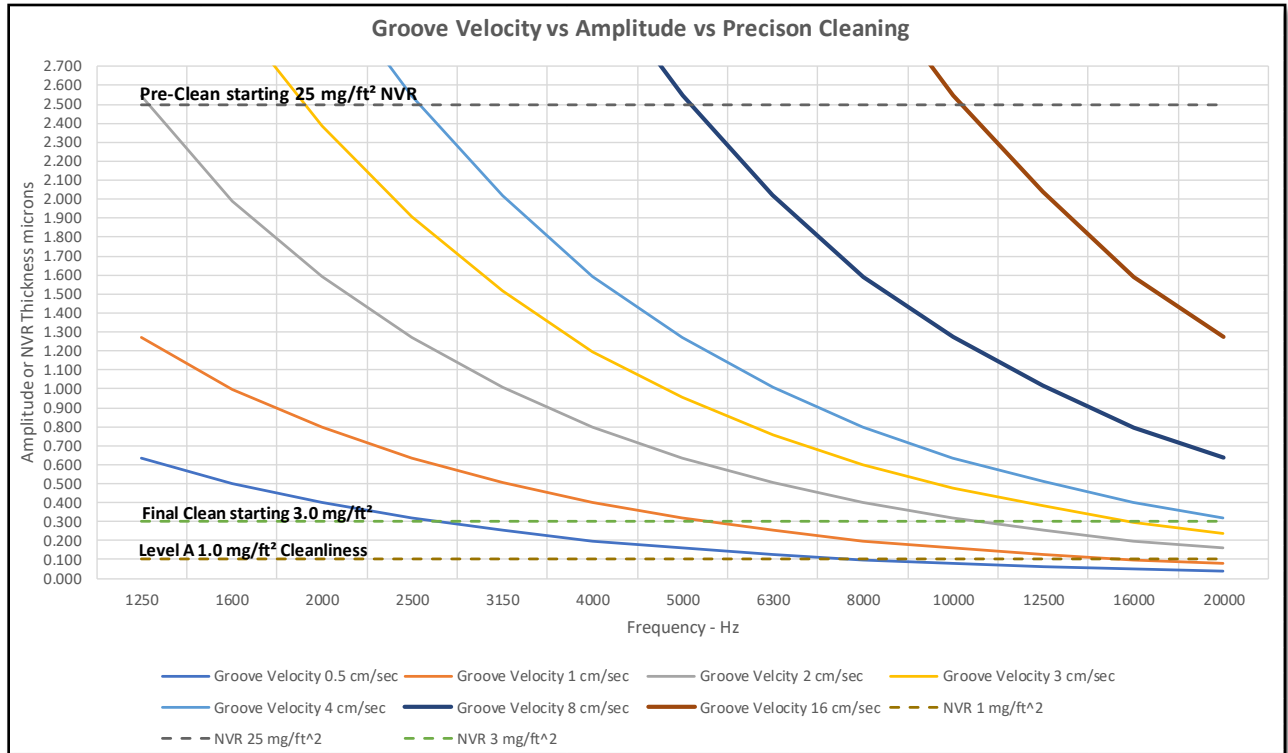

Figure 47 – Groove Velocity vs Amplitude vs Contamination Levels
XI.6 **Figure 47** focuses the data to show the overall cleaning process of **Table XVI** with groove velocity data from **Table XVII** into the zone of precision cleaning where the amplitude is less than 2.5 microns and where there can still be a lot of music. This is likely the area that experienced listeners report ability to hear loss of high frequency detail; the detail that allows the listener to hear into the instrument and into the soundstage. A surfactant film thicknesses (from NVR) less than 0.5 microns (left as a result of no-rinse or insufficient rinse) can still cover a wide range of frequencies.
- XI.6.1.b If the residue coats only the side-wall ridge valley, then the stylus may not deflect/trace the full peak-to valley height and high frequency detail can be attenuated/lost. Recalling the DIY cleaners from **CHAPTER VIII. DISCUSSION OF PRE-CLEANERS**; some are over 1000 mg/L (1 mg/ml) and if 3 mL was allowed to dry, the resultant NVR could be 3 mg/ft² with a resultant film thickness greater than 0.3 microns which by **Table XVII & Figure 47** should be audible.
- XI.6.2 **Figure 47** shows that Level A = 1 mg/ft² should not interfere with most if any music; except for high frequency 0.5 cm/sec (-6 db) and therefore should be an acceptable NVR criterion for general record cleanliness. However, the preceding discussion of the NVR film has assumed it is uniform on the record. Instead, a more variable distribution is possible. Applying a simple Gaussian (normal) distribution for a nominal NVR of 1 mg/ft² = 0.1-microns, the actual film thickness could realistically vary from as low as 0.04-microns to as thick as 0.2-microns. So, depending on the individual record dynamic range, even Level A = 1 mg/ft² may be insufficient for very experienced **or sensitive** listeners.